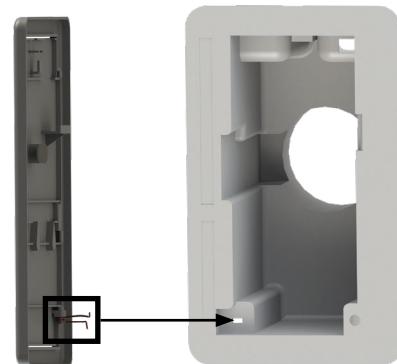

Fig.4
2. Insert the spring latch through the hole in the lower left corner of the enclosure (Fig.4).